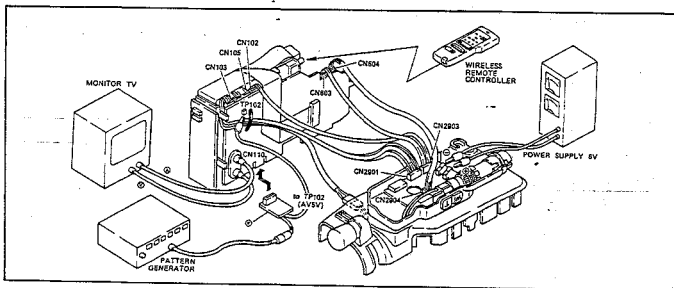

Fig. II-39
- (1) Connect each prepared devices as illustrated in the Fig. II-39.